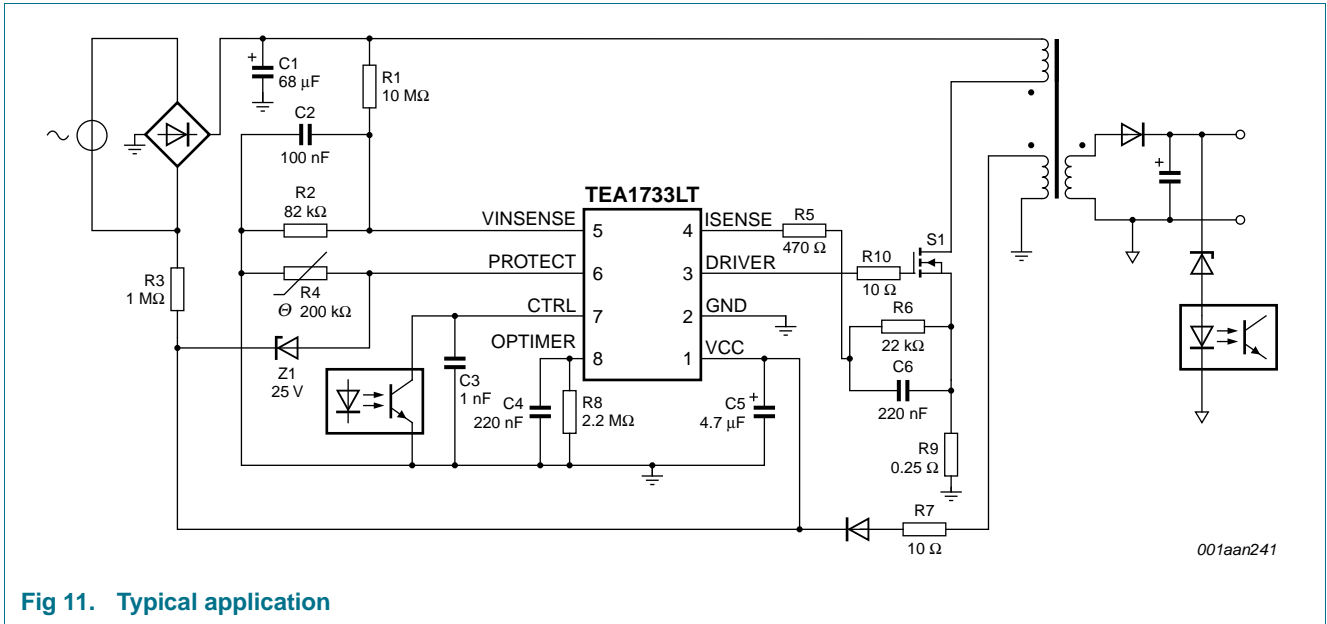

Fig 11. Typical application
A power supply with the TEA1733LT/N1 is a flyback converter operating in Continuous conduction mode (See Figure 11).
In the example shown in Figure 11, the PROTECT pin is used for OVP and OTP. The OVP level is set by diode Z1 to $V_{CC} = 25.8\text{ V}$. The OTP level is set by Negative Temperature Coefficient (NTC) resistor R4. The VINSENSE pin is used for mains voltage detection and resistors R1 and R2 set the start voltage to about 80 V (AC). The overpower protection time is defined by capacitor C4 is set at 60 ms.